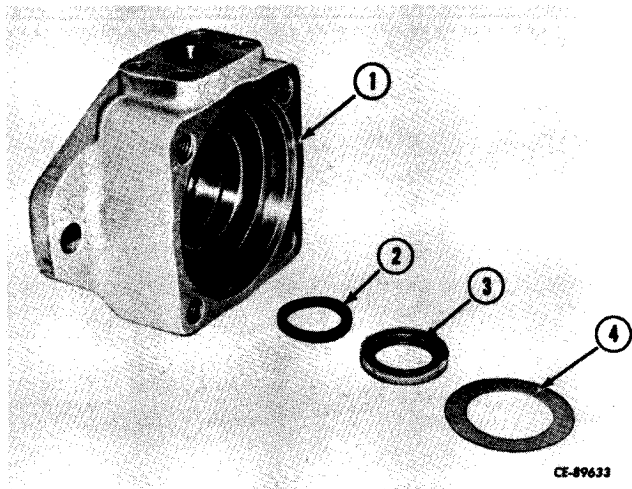

Figure 11-13
Remove the washer (4, Fig. 11-13), seal (3) and wiper (2) from the body (1).
Install washer in the body (4, Fig. 11-13).